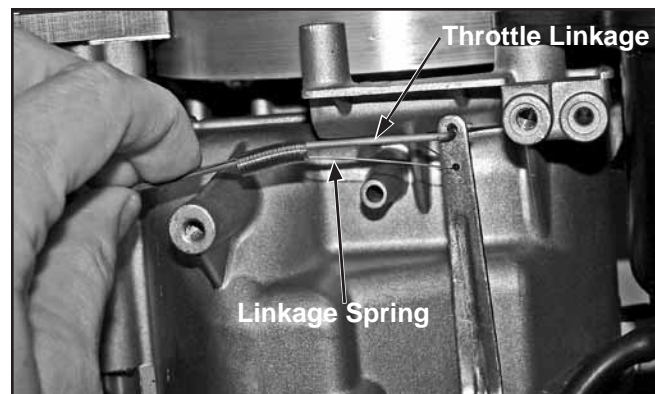

Figure 10-37. Attaching Governor Linkage.
2. Attach the throttle linkage and linkage spring to the top of the governor lever. See Figure 10-37.